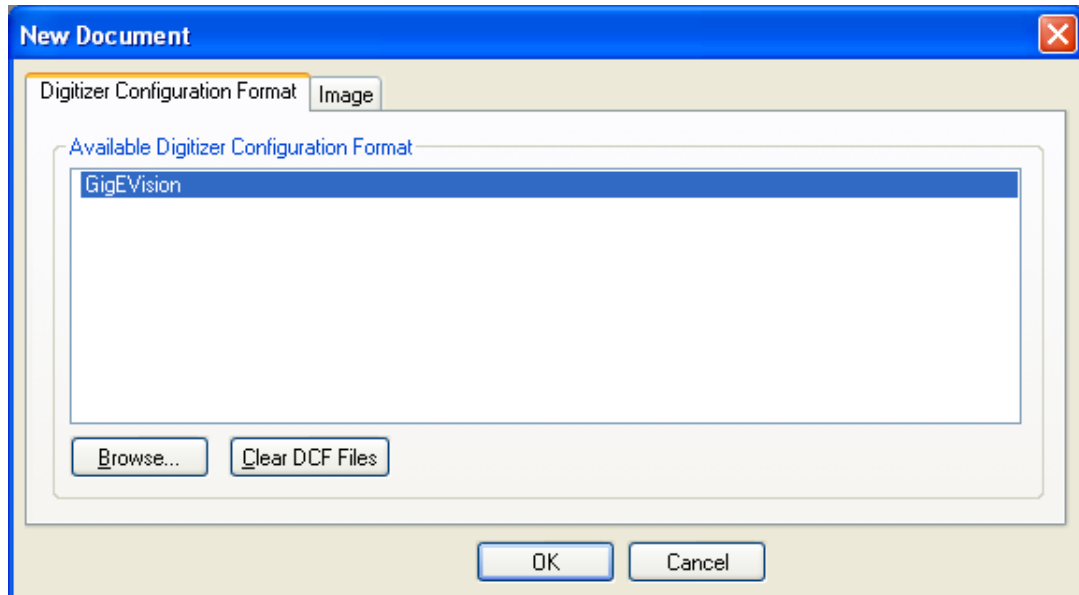

Figure 5.5: Intellicam New Document
3. Close the previously opened windows and run Intellicam (Start -> All Programs -> Matrox Imaging -> Tools -> Intellicam). Click on File .> New.... In the new window select GigEvision (see Fig. 5.5). Click on Ok button.